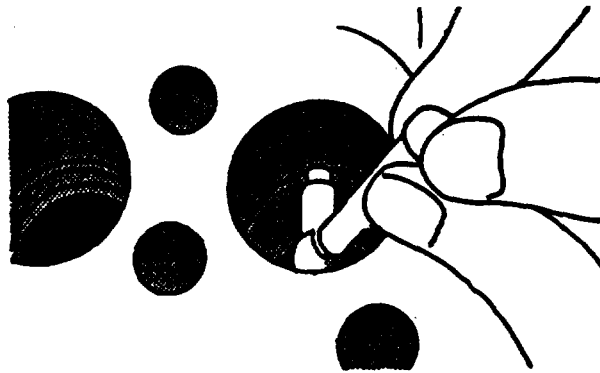

FIGURE 3-139. Measuring Cam Follower Bore Diameter
- (4) Measure cam follower bore diameter, refer to FIGURE 3-139. New diameter is 1.248 to 1.250 inches (31.70 to 31.75 mm). If diameter is more than specified, install a new engine block. Service bushings are not available. New cam follower diameter is 1.245 to 1.246 inches (31.62 to 31.65 mm). Maximum cam follower clearance is 0.005 inch (0.13 mm)